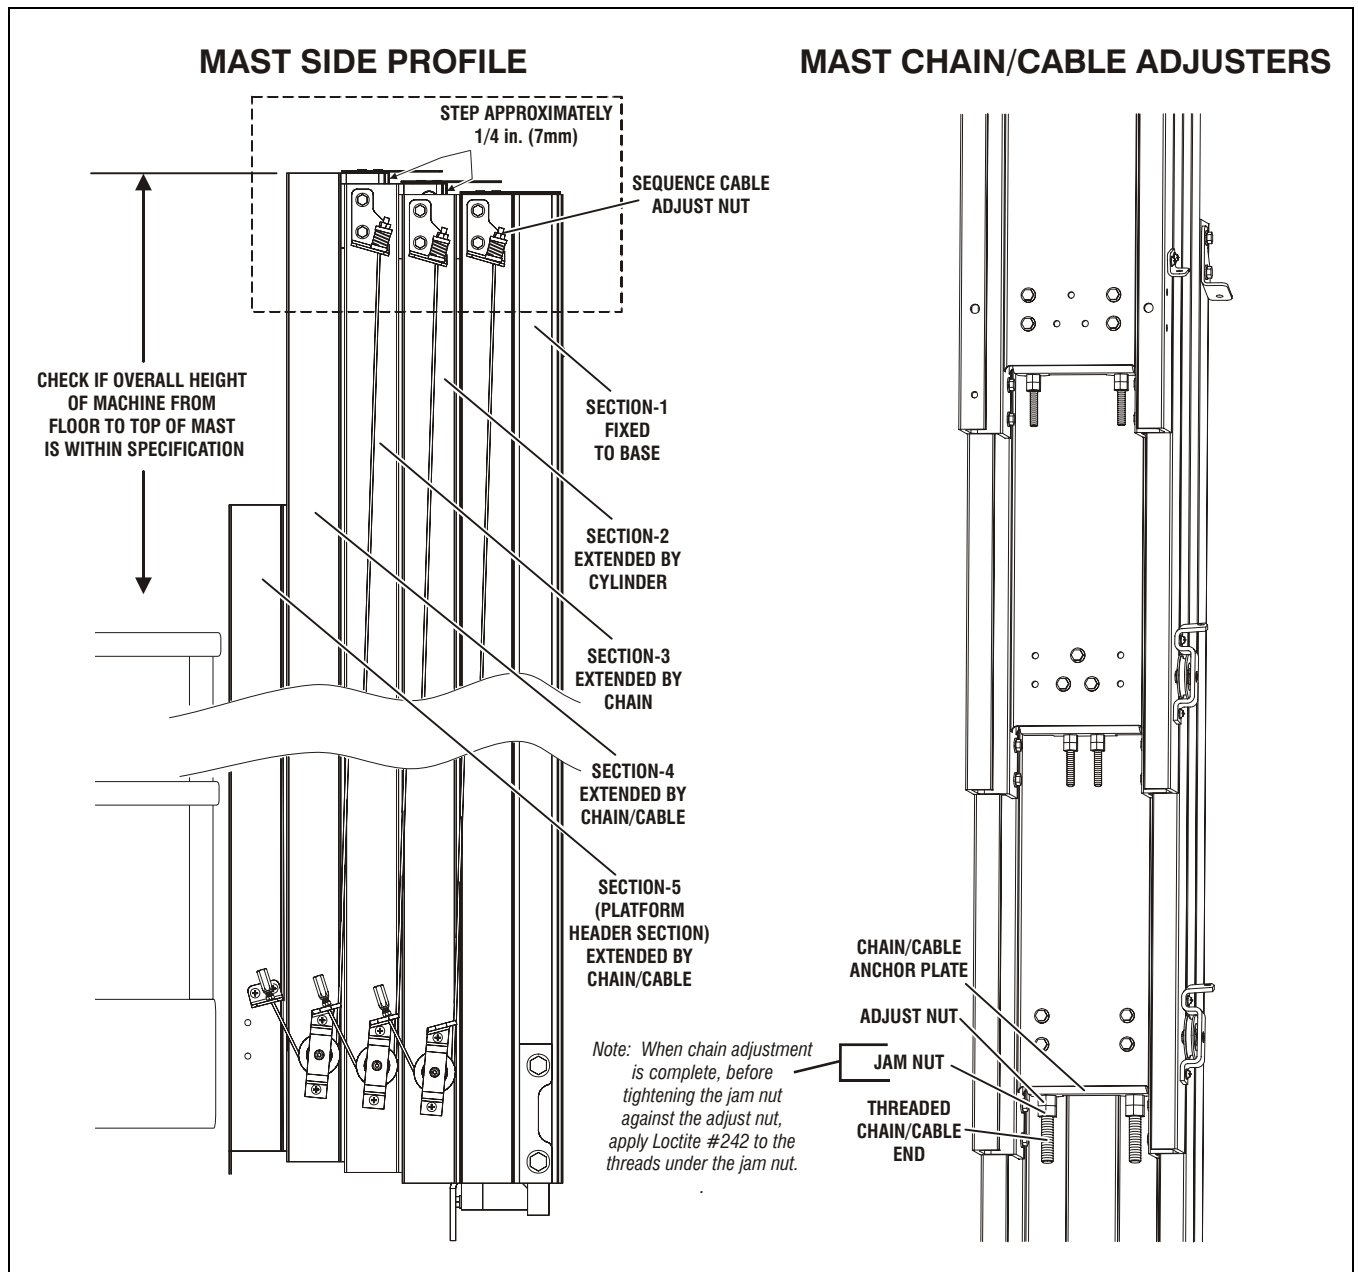

Figure 2-6. Mast Chain/Cable/Sequence Cable Adjustment Components. (Typical)
2. Then with no load in the platform check the side profile of the top of the mast for the amount of adjustment necessary to obtain the 1/4 in. (7mm) step for mast sections-3 and up. *(See Figure 2-6.)*
6. **Tighten** *(to raise mast section)*, or **loosen** *(to lower mast section)* the **adjusting nut** against the anchor plate on each chain/cable. Adjust the nut the amount required to raise or lower the top of the mast section to match the side profile shown in Figure 2-6. when the mast is retracted.
7. Retract the mast all the way and check if the top of the mast sections appear as shown in Figure 2-6.
8. Repeat steps (1) through (7) for remaining mast sections.
3. Be certain the mast is completely retracted and at the bottom of travel. Check the mast "Side Profile" at the top of the mast as shown in Figure 2-6., adjust mast sections to proper height if necessary.